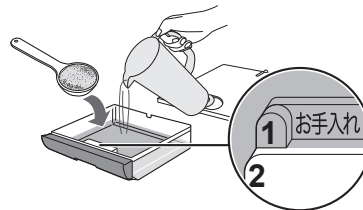

Figure 1
- 1 Pure citric acid, available at some drugstores, is used for descaling. Open the lid of the water tank. Fill the water tank with water over the 1 mark. Then dissolve 2 tablespoons of pure citric acid as shown in Figure 1.